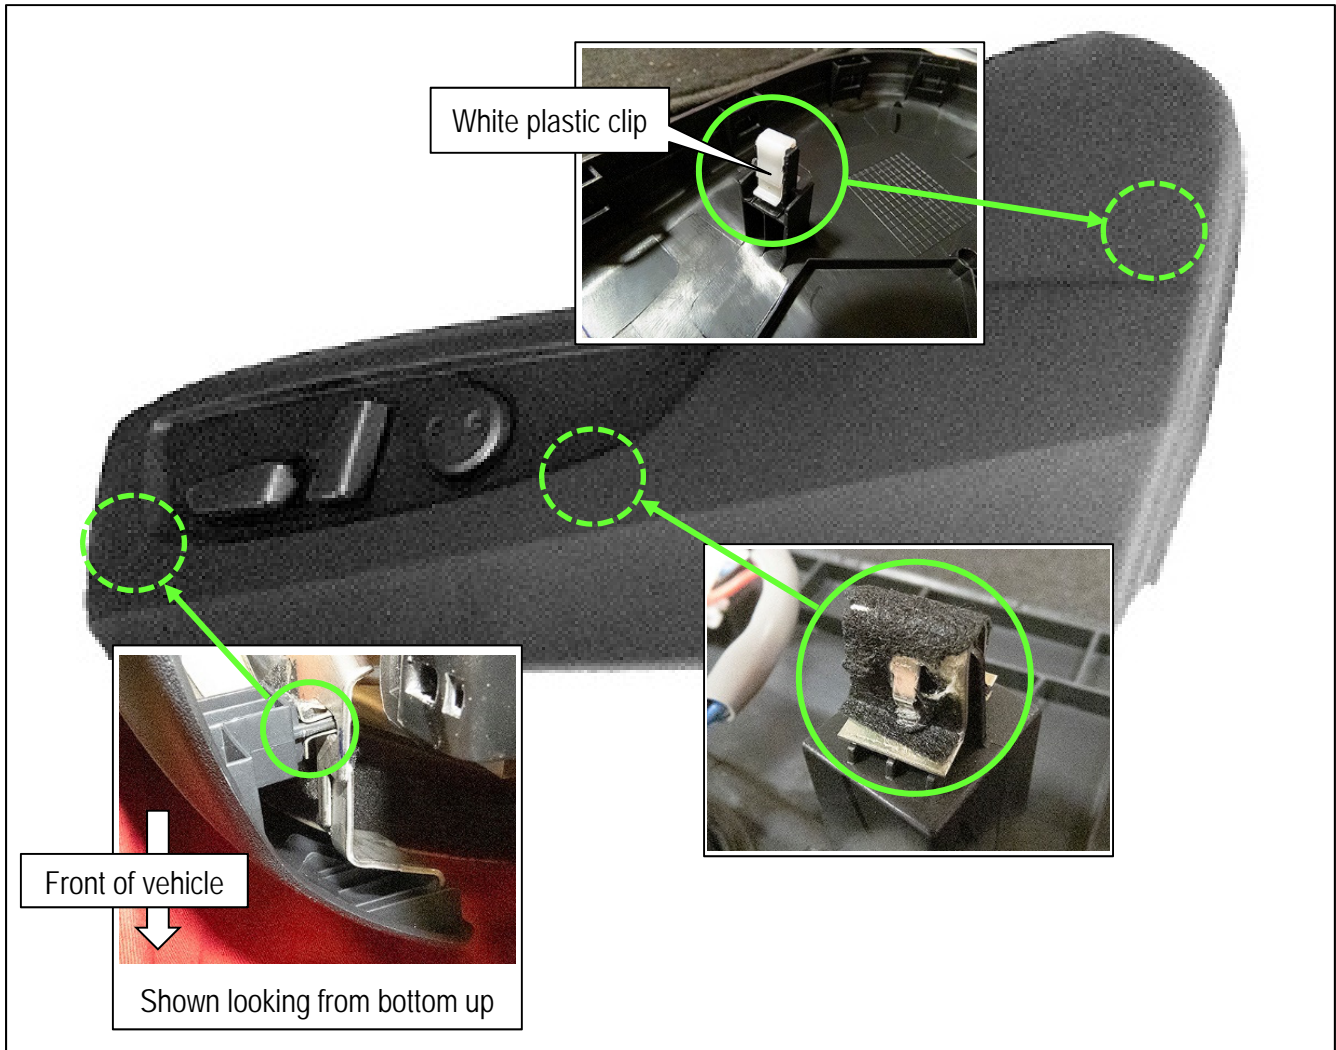

Figure 11
21. Confirm that the white plastic clip shown in Figure 11 is attached to the seat switch finisher. If still attached to the seat frame, remove it and relocate it back to the seat switch finisher.
30. Remove the felt tape from the two (2) metal clips on the switch finisher, and apply new felt tape (see Figure 11 on page 10 for locations).